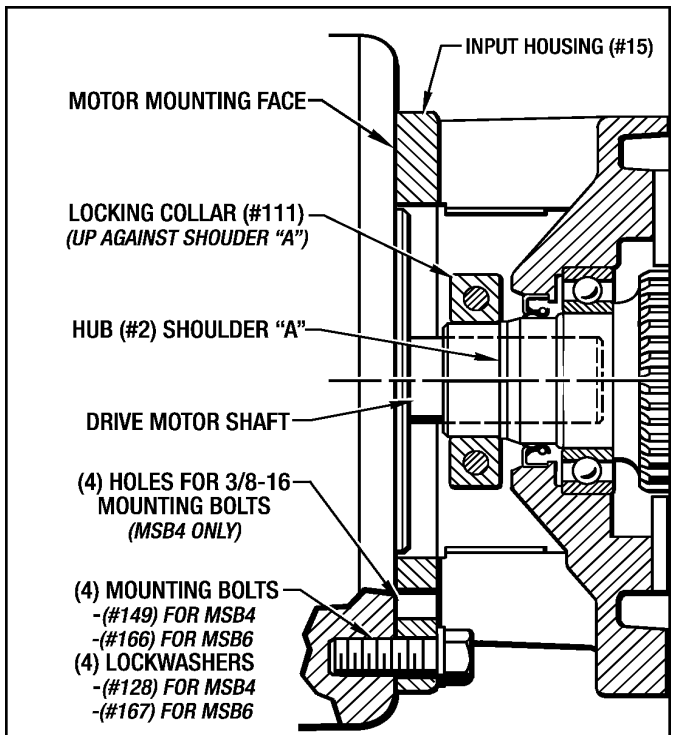

Figure 3.5 - Installing MSB4 & MSB6 Onto Drive Motor
2. Push the Locking Collar (#111) back against the small shoulder "A" on the Hub (#2) as shown in Figure 3.5. Slide the Brake Unit onto the motor shaft as far as it will go. Align the (4) mounting holes with the motor and attach with (4) Mounting Bolts and (4) Mounting Lockwashers. Finger tighten the (4) bolts. **Make sure the brake is snug against the motor face.**